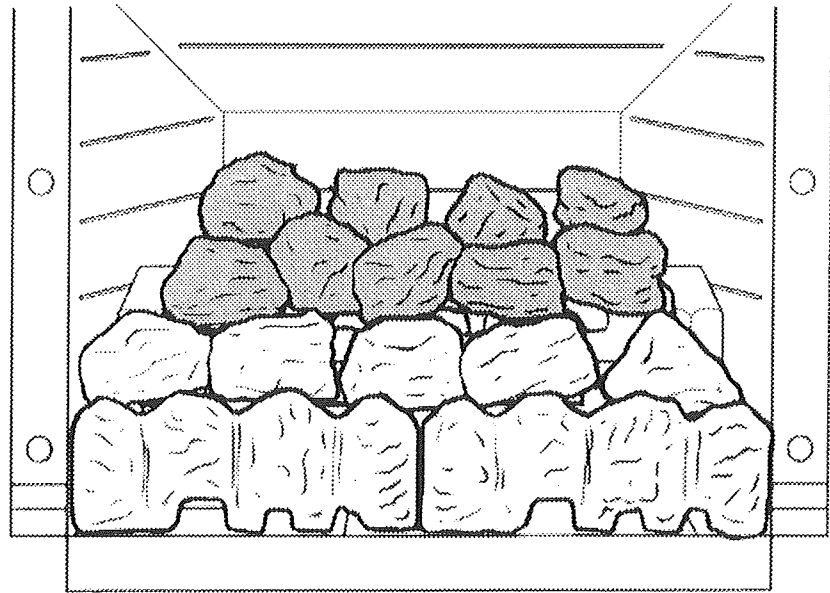

Figure 15 - Placing the remaining dress coals in two rows of five (5) and four (4)
The fourteen (14) individual dress coals (Figure 15 Page 11) should be removed, noting their approximate positions to facilitate replacement, and then placed on a piece of newspaper. Any deposits can be carefully removed from the surface of the coals using a soft brush (such as a paint brush).
Place a further row of five (5) coals on the matrix in a random fashion above the first six coals previously placed, as shown in Figure 15 overleaf. Then place the remaining four (4) coals in a row on the surface of the matrix above the second row of coals, leaving a space between these two rows to allow the best flame effect. Ensure a generally even spacing between all the coals for the best effect.